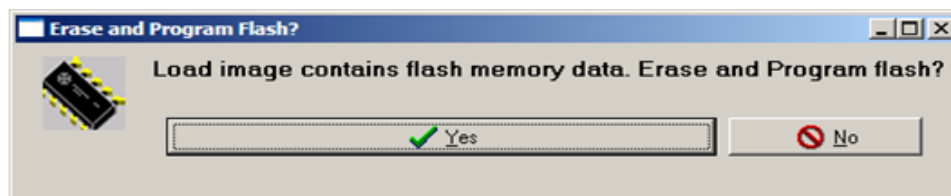

Figure A-12. Erase and Program Flash pop-up
3. The pop-up in Figure A-12 appears. Click on the Yes button to load the built image to the JM60 flash.